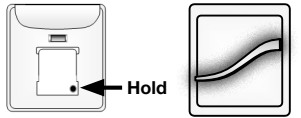

Fig. 17
B. Press and hold the program button on the secondary remote control until the LED light flashes green (about three seconds), then release the button. Both the primary and secondary remote LEDs will flash green and then turn off, confirming inclusion. (Fig. 17)